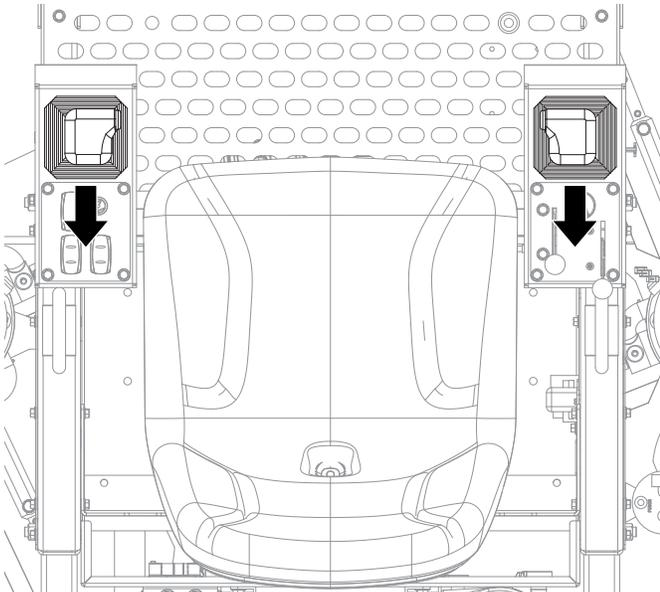

Figure 28. Joysticks (Reverse)
8. Pull both the left and right joysticks **backward** (Figure 28) and repeat steps 3–4 while substituting the word *reverse* for *forward*.